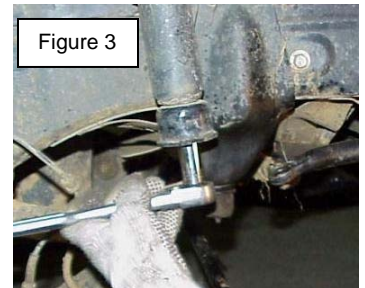

Figure 3
9. Remove the bump stop-mounting cup as shown in figure 3. (ZJ & TJ only)
6. Remove the rear coil springs and the bump stops from the bump stop mounting cups. See figure 3.